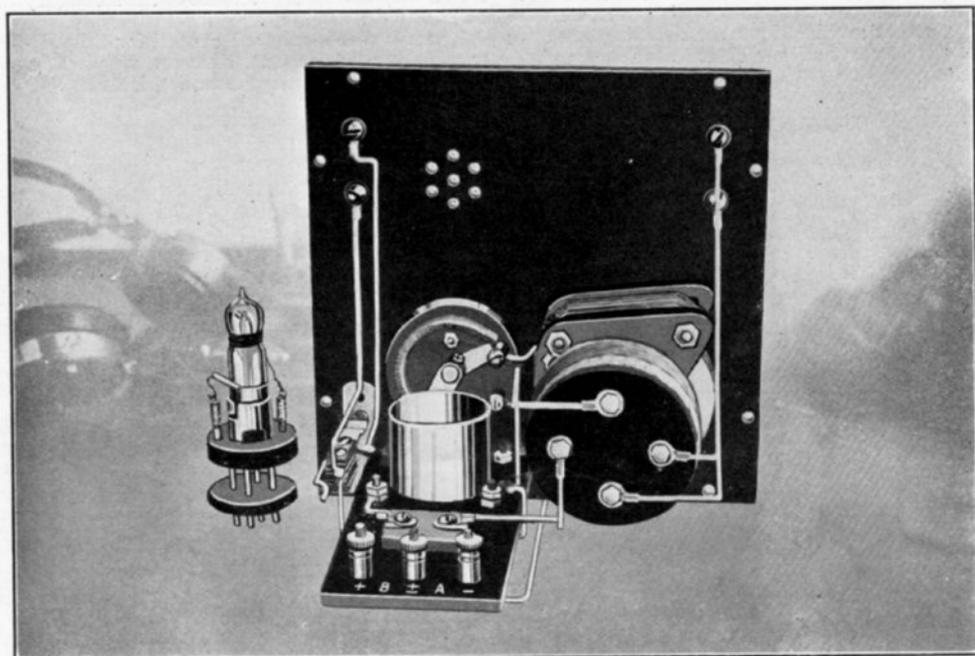

Fig. 2. A rear view of the Simplified Receiver, showing also the W. T. 501 tube mounted in the adapter
**Fig. 2. The usual design for plain instrument cabinets, from which slight variations are sometimes made to give a slightly more ornamental appearance. Length X should be 7, 10, 14, 18 or 24 ins. according to the panel**